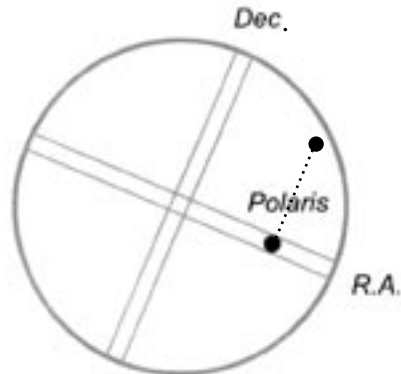

Figure 17. Adjust the telescope in Dec. (with the hand controller) to place the star on the R.A. crosshair.
7. Using the Dec. direction button on the hand controller, adjust the telescope in Dec. so Polaris lies on the R.A. crosshairs of the illuminated reticle eyepiece (Figure 17).
10. Adjust the position of the telescope in the Dec. axis so Polaris lies on the R.A. crosshairs of the illuminated reticle eyepiece (Figure 17).